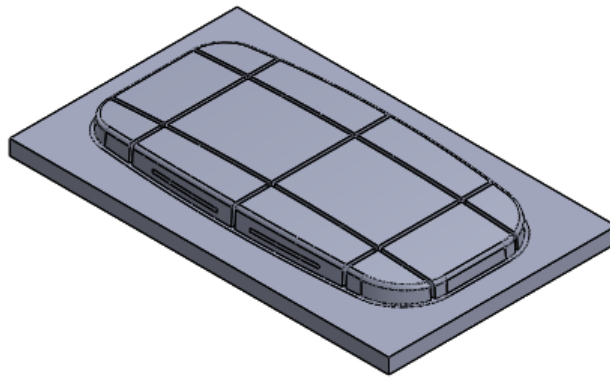

Figure 21-60 Final core
- f. Extract the core, refer to Figure 21-60.
The final core is shown in Figure 21-60.